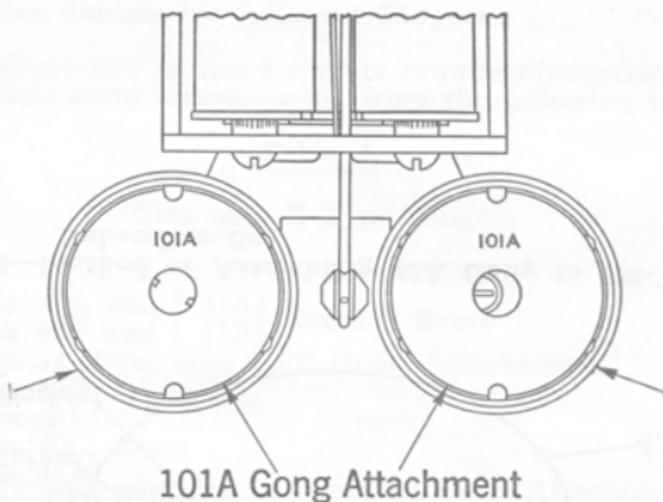

Fig. 4—101A Gong Attachment
3.05 A 41A gong should be assembled with the 101A gong attachment shell (with the cover off) next to the gong, then the flat washer provided with the attachment and the lock washer and screw from the gong. The screw should be turned down until it is possible to rotate the gong with some friction. The gongs should then be adjusted for clapper clearance as in 3.01. When the proper clapper clearance is obtained, the 101A gong attachment shell should be rotated to a position so that the triangular openings in the side of the shell are in line with the clapper. The gong mounting screw should then be set up tight. The gong attachment should not touch the sides of the gong after the screw is tightened. After these adjustments are made the cover should be placed on the shell of the attachment and the tabs on the shell be bent over the cover to hold the latter in place, as shown in Fig. 4.